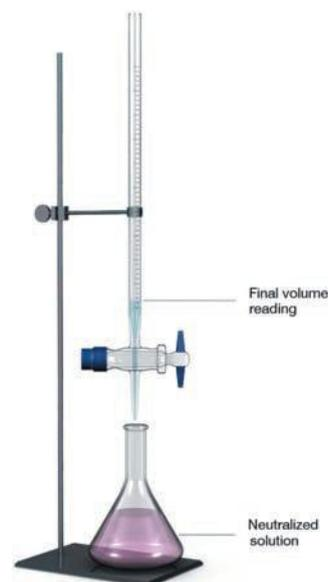

Figure 1.3.10:
- The equivalence point is established when the mole ratio of reacting quantities is met. The endpoint is recognised as a permanent observable change past the equivalence point (point where the stoichiometric ratio has been achieved) (Figure 1.3.10).